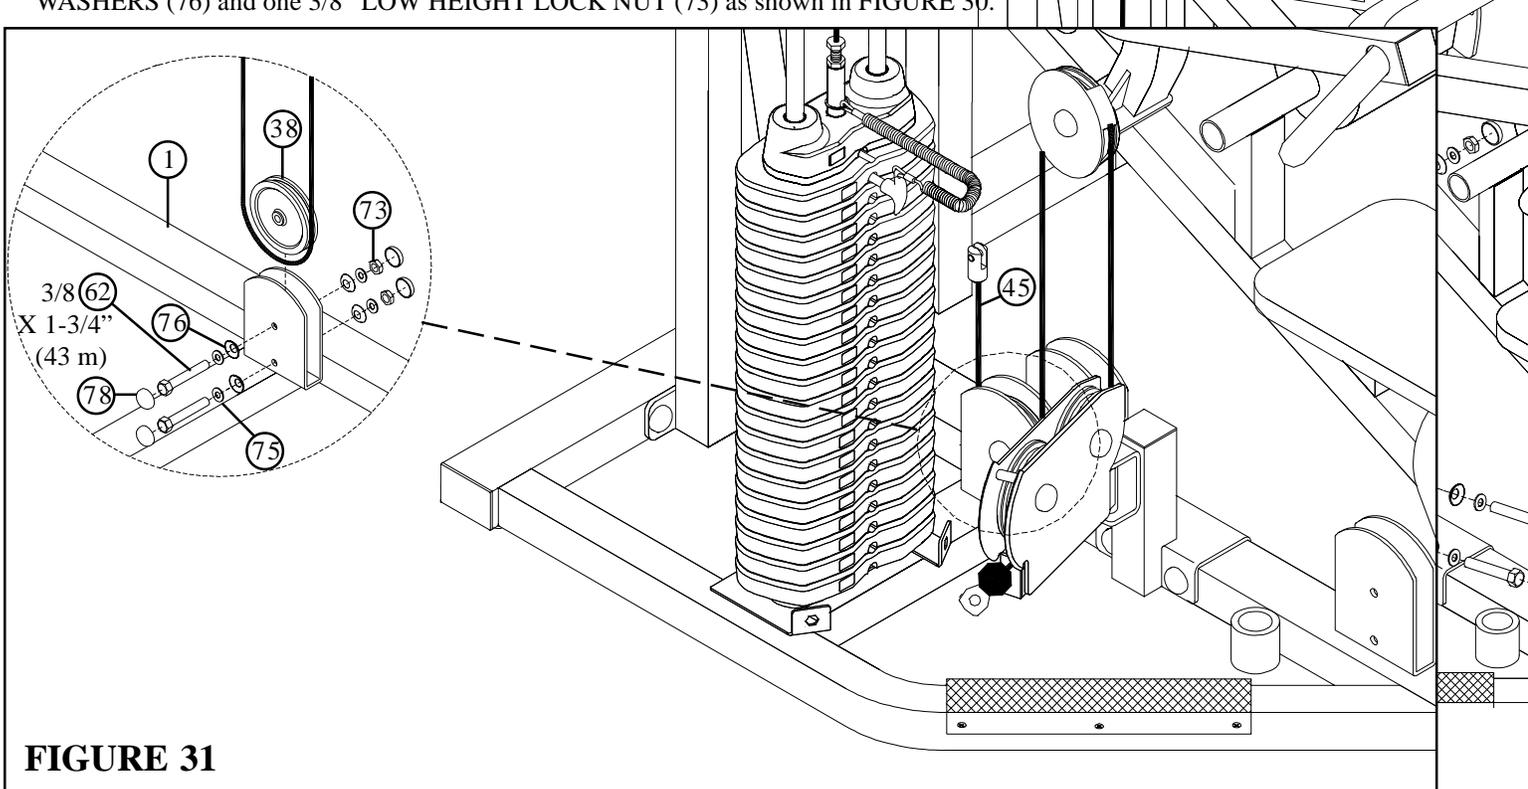

**FIGURE 30**
- Route the LEG CABLE (45) through the SWIVEL (14) and assemble two 4-1/2" PULLEYS (38) to the SWIVEL (14) using four BLACK RH CAPS (77), two 3/8 X 1-3/4" BOLTS (62), four 3/8" SAE WASHERS (75), four 3/8" RH WASHERS (76) and two 3/8" LOW HEIGHT LOCK NUTS (73) as shown in FIGURE 30.
- Route the LEG CABLE (45) around one 4-1/2" PULLEY (38) and assemble the PULLEY (38) and the PULLEY GUARD (22) to the PIVOT ARM (9) using two RH CAPS (78), one 3/8 X 1-3/4" BOLT (62), two 3/8" SAE WASHERS (75), two 3/8" RH WASHERS (76) and one 3/8" LOW HEIGHT LOCK NUT (73) as shown in FIGURE 30.